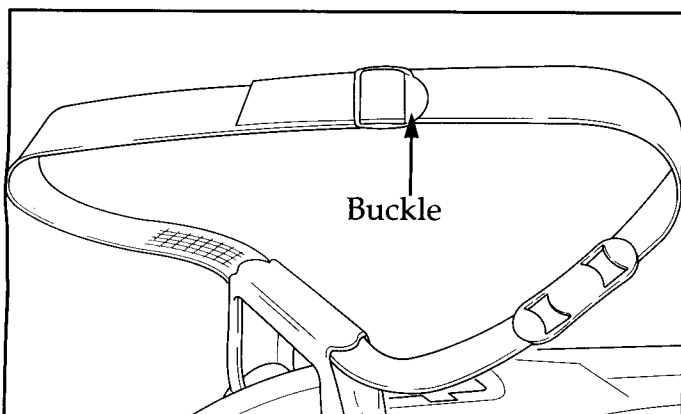

Figure 8
2. Thread strap through the buckle. Figure 8.